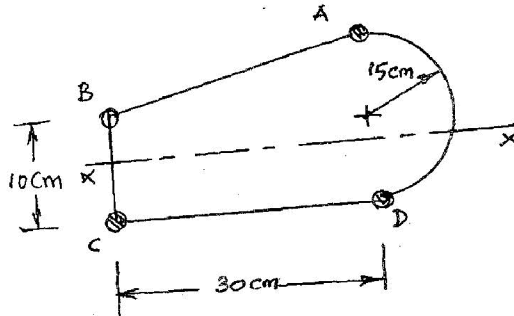

Fig. 5
- (b) A beam section shown in Fig. 5 has four stringers. The area of the stringers A, B, C and D are 6.25, 3.125, 4.5 and 6 sq.cm. respectively. Find the stresses in all the four stringers of the section due to  $M_x = 50$  kNm and  $M_y = -20$  kNm where  $x$  and  $y$  are the centroidal axes. Assume that webs and walls are ineffective in bending.